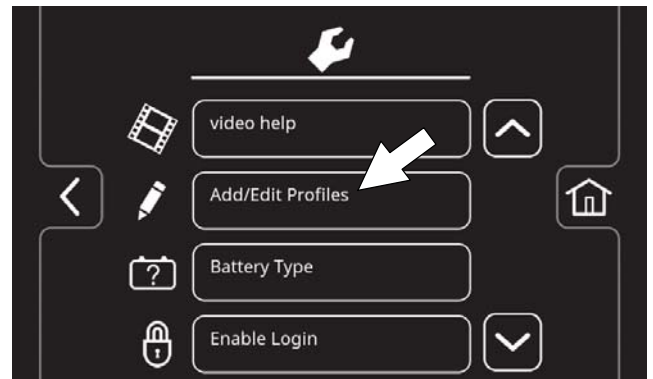

FIG. 162
- Press the Add/Edit Profiles button to enter a new user profile (Figure 162).